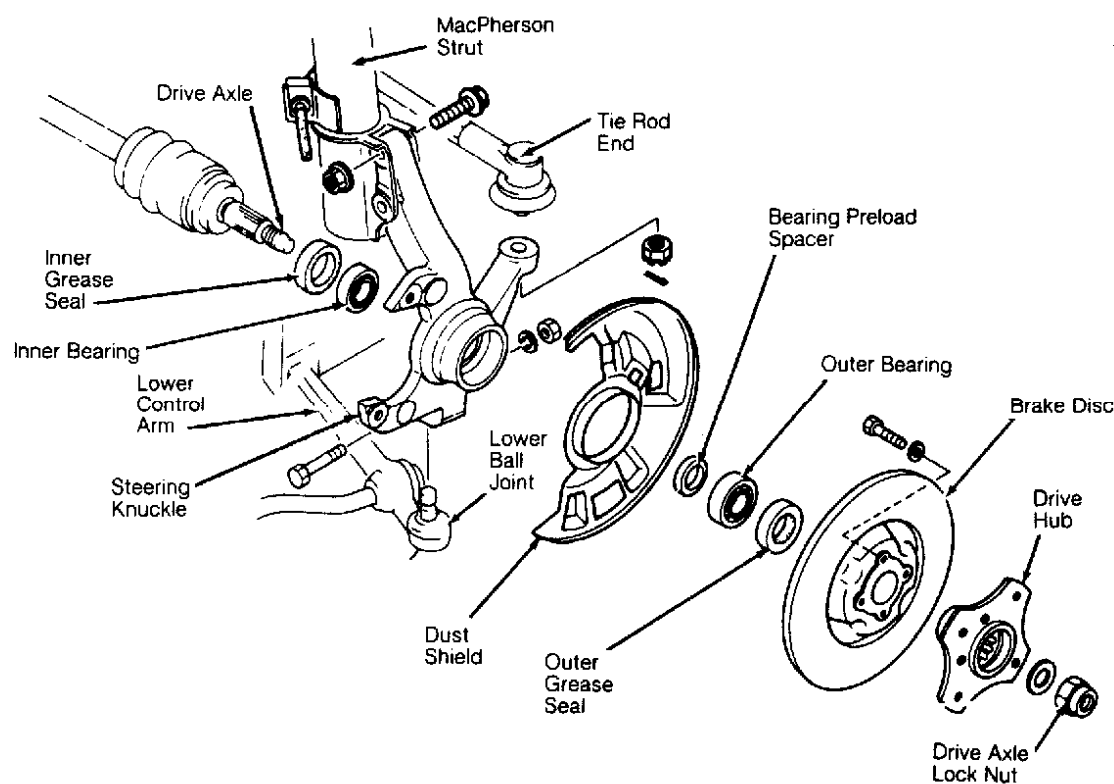

Fig. 3: Front Wheel Bearing & Hub Assembly
3. Remove rotor attaching bolts and rotor. Use Bearing Splitter (D84L-1123-A), Shaft Protector (D80L-625-2) and a press, or Bearing Puller (D80L-927-A) and Puller Attachment (D84L-1123-A) to remove outer bearing from wheel hub. Remove and discard outer and inner grease seals. Using Bearing Puller (T77F-1102-A) and Slide Hammer (T-50T-100-A), remove races from steering knuckle. See Fig. 3.